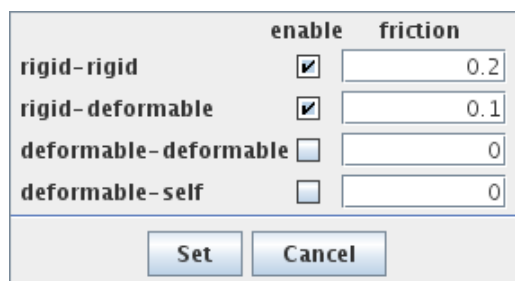

Figure 78: Dialog for setting default collision behavior in a MechModel.
- For default behaviors, the enabled and friction properties can be edited by selecting the `MechModel` and then choosing “Set default collisions ...” from the context menu. This will open the dialog shown in Figure 78, allowing the enabled and friction properties to be adjusted. For the example shown, collisions are enabled between all rigid bodies, with a friction coefficient of 0.2, and between all rigid and deformable bodies, with a coefficient of 0.1. Other collisions are disabled.